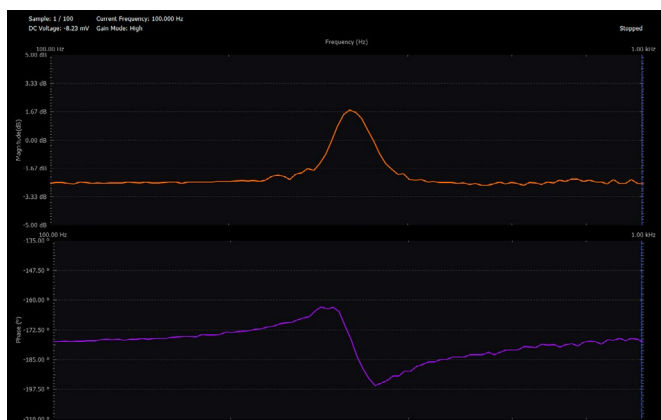

Figure 6. Frequency sweep of the loudspeaker circuit.
2. For the frequency sweep of the loudspeaker circuit in Figure 6, determine the  $F_s$  and BW values.